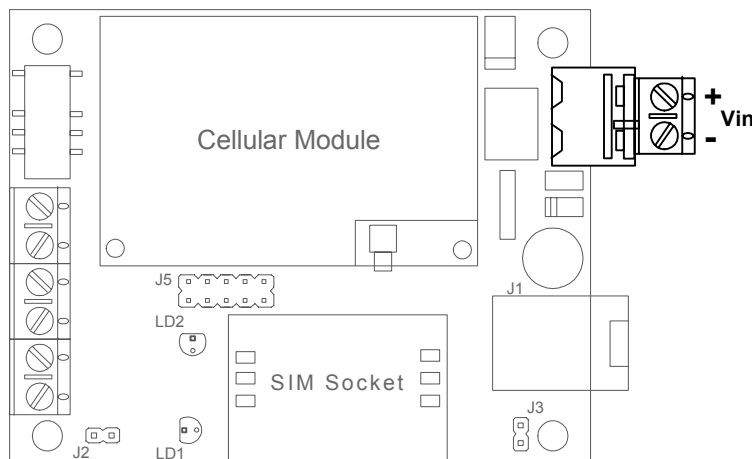

Figure 3 – Power Supply Input
- iii. Power the Pix-Cell controller according to Figure 3. The controller is protected against reverse polarity. The input voltage range is from 8Vdc to 16Vdc.